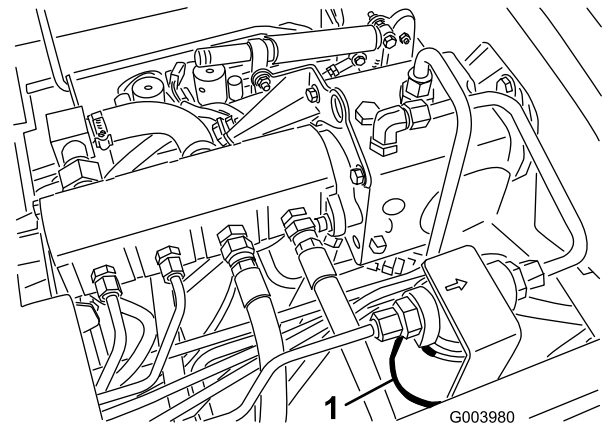
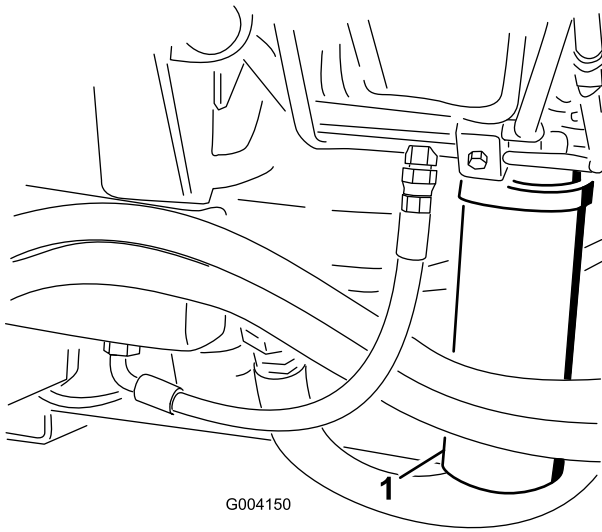

Figure 80
Figure 81
2. Clean the area around the filter mounting area and place a drain pan under filter (Figure 80) and (Figure 81).